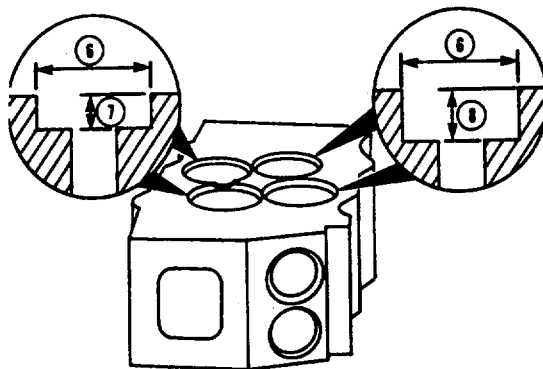

FIGURE 4-27. Valve Seat Insert Bore Measurement.
- (5) Measure the inside diameter and the depth of the insert bore (FIG. 4-27). Verify bore meets following specifications.